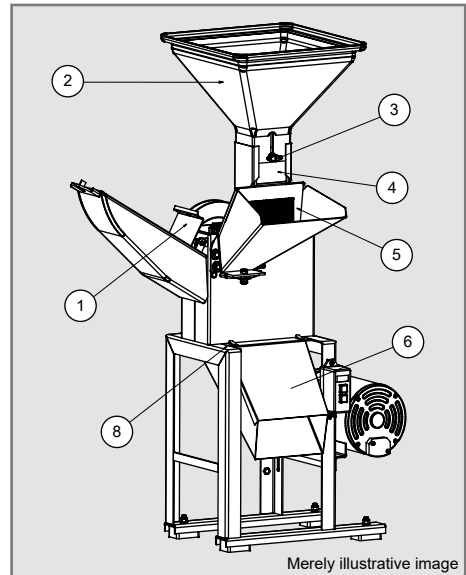

Fig. 1
- ✓ Fit the cover plate (1), according to figure 1. Except for models TRF 50 and TRF 70.
- ✓ Mount the green crop funnel cover (5) according to figure 1.
- ✓ The dry product is placed in the grain funnel (2), from where it is directed to be processed, the final product being poured in the material output funnel (6). Place a container or a raffia bag under the material output funnel (6) in order to collect the crushed material, according to figure 1. In some models of shredders the material will get out from the machine through the lower part of the shredder body (7), and a container or a raffia bag can also be used to collect the crushed material, according to figure 2.
- ✓ The TRAPP shredders are provided with a support to fit a raffia bag or another type of container in order to facilitate the crushed material collection, as indicated (8), according to figures 1 and 2.
- ✓ Be careful **not to overload the motor**. Regulate the grain output adjuster according to the shredder's capacity to grind and to the strainer chosen. The regulation of the grain saída adjuster is done in the following way: loosen the wing nut (3) located underneath the grain output adjuster. Once the regulator (4) is free, pull in case you need a bigger opening, and push in case you need a smaller opening. After regulating, tighten the wing nut (3), according to figures 1 and 2.